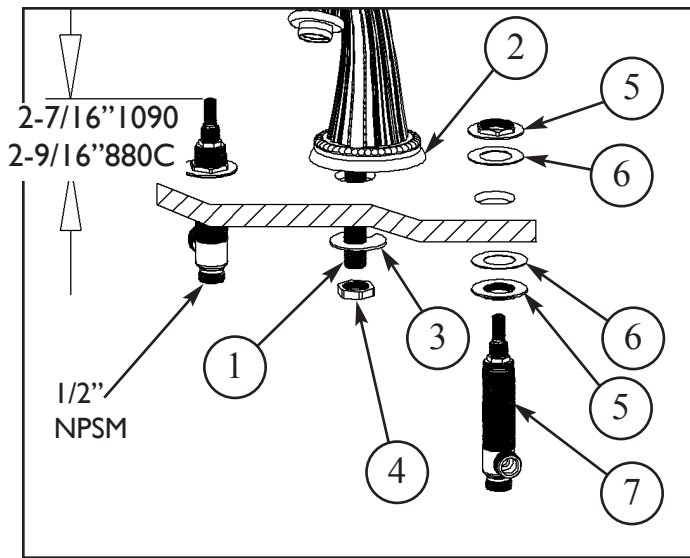

Figure 1
1. Place the spout SHANK (1) through base RING (2) and center hole of mounting surface. Secure spout into place with WASHER (3) and NUT (4), (align the WASHER (3) slot in direction of pop-up rod). See Figure 1.
2. Place flange NUT (5) and WASHER (6) on valve BODY (7). Insert BODY (7), (blue cold & red hot), through hole in the mounting surface. Adjust and secure with additional WASHER (6) and flange NUT (5) so that the top of valve is 2-7/16" (1090) & 2-9/16" (880C) above top of mounting surface. Before tightening down flange NUT (5), check HANDLE (15) alignment by placing onto Valve (7). Any adjustments for rotational alignment must be made to the valve BODY (7), not to the cartridge. See Figure 1.